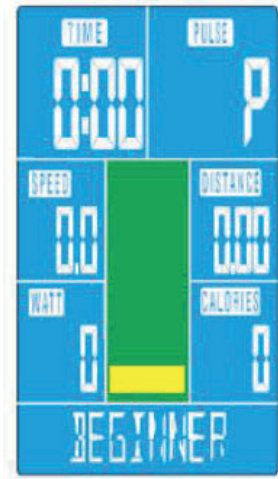

Fig. 4
1. Choose the program (Beginner) and confirm the choice with the MODE button (see fig. 4).